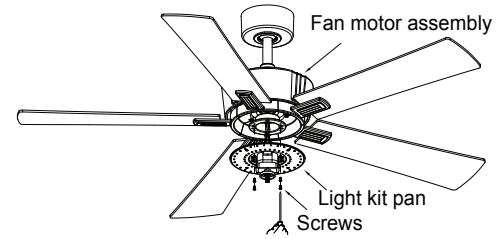

Fig. 19
**Step 3.** Align the screw holes from the light kit pan with the screw holes on the mounting ring of the fan motor assembly. Reinstall and tighten the four screws previously removed in step 2 securely. (Fig. 19)